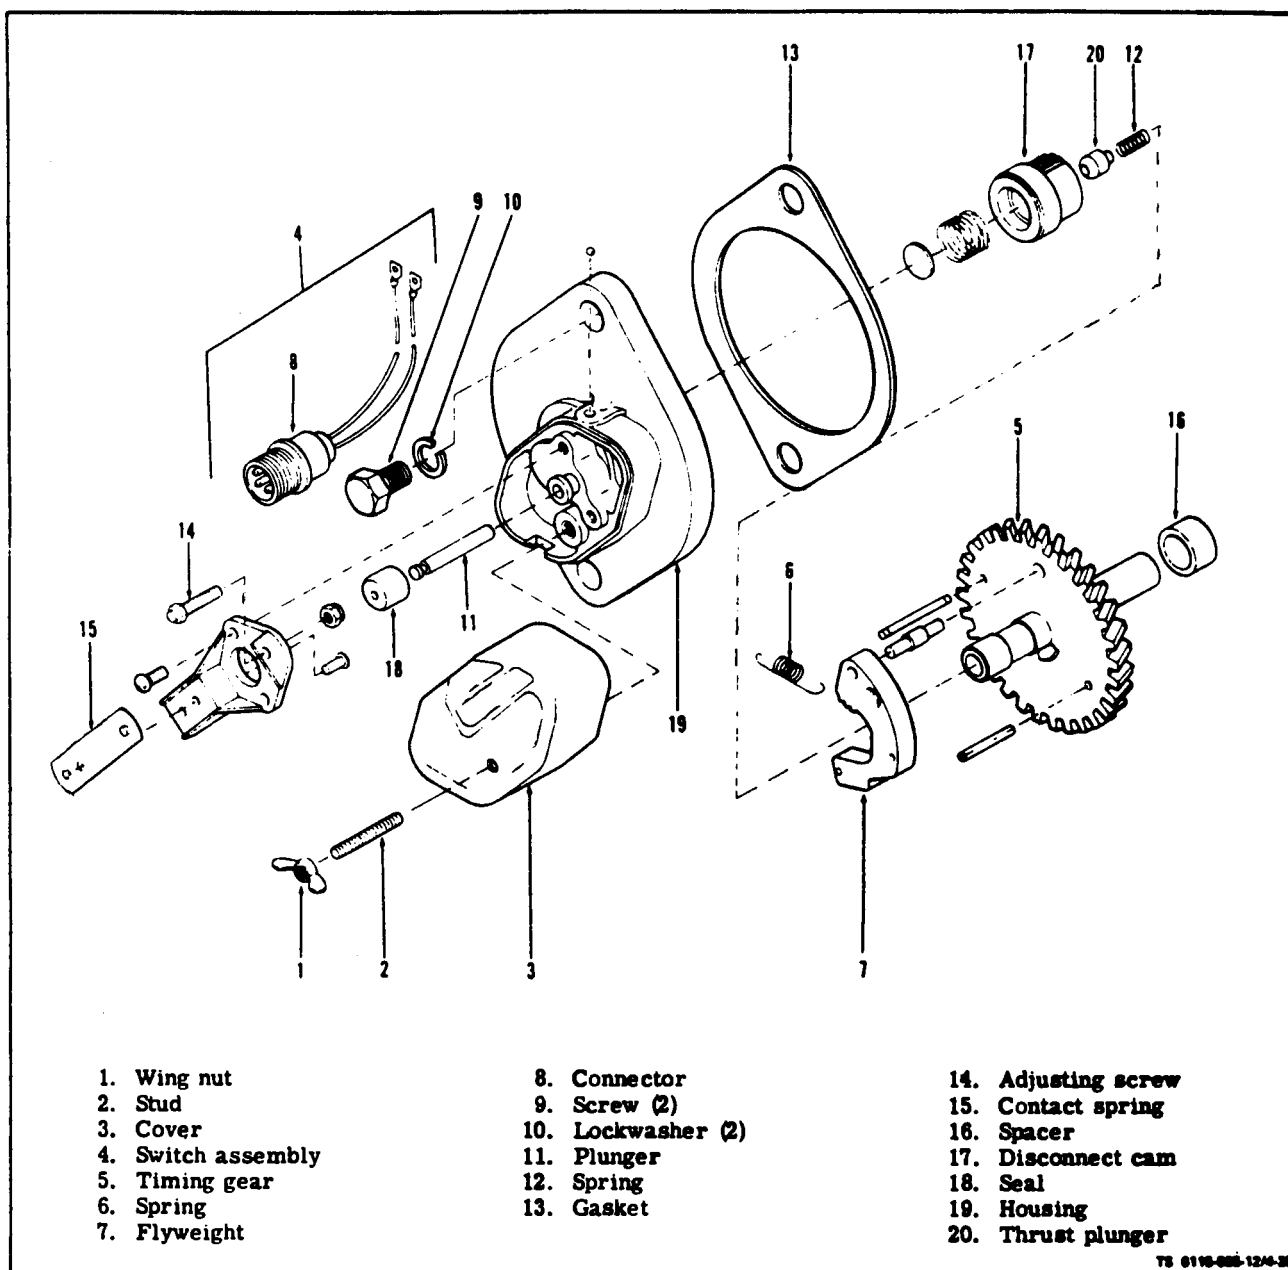
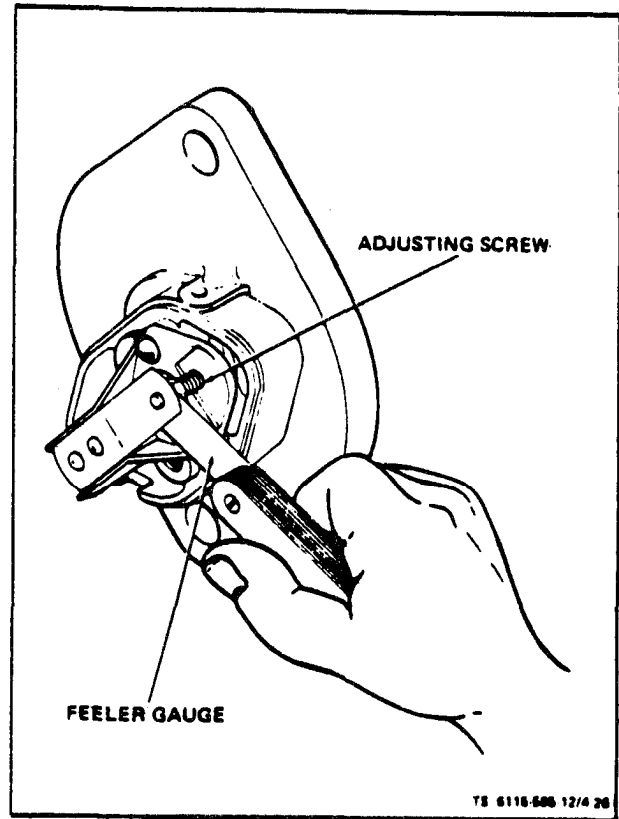

Figure 4-25. Lockout Switch and Gear
Figure 4-26. Adjusting Starter Lockout Switch
a. Inspect (see figure 4-25). Disconnect negative battery cable. Remove wing nut (1) and cover (3) and inspect switch contact points between contact spring (15) and adjusting screw(14) for physical damage.
b. Test. With engine off, disconnect switch at connector (8). Using an ohmmeter, test that there is
c. Remove. Disconnect switch lead from connector (8). Remove two screws (9) and lockwashers (10) attaching switch to engine back plate. Carefully remove switch taking care to lose thrust plunger
(20) and spring (12). Slide gear (5) out through opening in engine back plate. clean any gasket (13) material from switch and back Plate.
e. Replace. Make certain spacer (16) is on shaft and slip timing gear (5) through opening in engine back plate. Make certain that shaft seats properly in gear cover and that gear teeth are properly meshed. Place thrust plunger (20) and spring (12) in gear shaft. Slide switch and gasket (13) over shaft and attach to engine back plate with two screws (9) and lockwashers (10). Use a new gasket (13) between switch and engine back plate. Reconnect electrical connector (8).
f. Adjust. With engine stopped, remove cover retaining wing nut (1) and remove cover (3). Turn adjusting screw (14) clockwise until points open. Turn adjusting screw counterclockwise until points just close (see figure 4-26). Start engine and disconnect switch from wiring harness at connector (8, figure 4-25). Adjust adjusting screw for a 0.040 point gap. Replace cover (3) and wing nut (1). Reconnect connector (8).